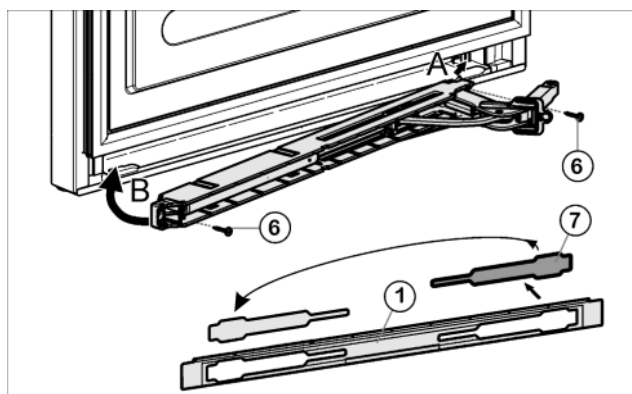

Fig. 11
- ▶ Remove the cover Fig. 11 (7) from the faceplate Fig. 11 (1) and re-insert it at the other side.
- ▶ Engage the soft stop unit with the joint pointing to the hinge side (A) and swivel into place (B).
- ▶ Screw down the soft stop unit (2x Torx® 15) Fig. 11 (6).